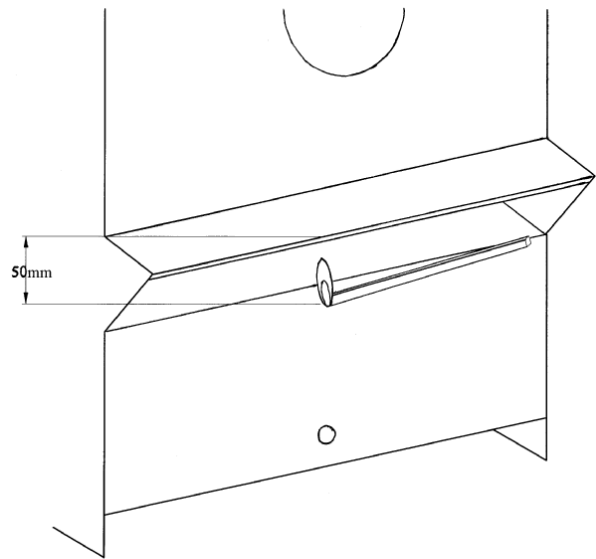

Fig. 9
Step 4. Position the smoke match at the back of the fire centrally beneath the draught diverter as shown in **Fig 9**.